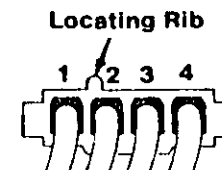

Figure 3. Diskette Drive and Fixed Disk Drive Voltages
- Check the diskette drive and fixed disk drive power connectors for the correct voltages ( see Figure 3).